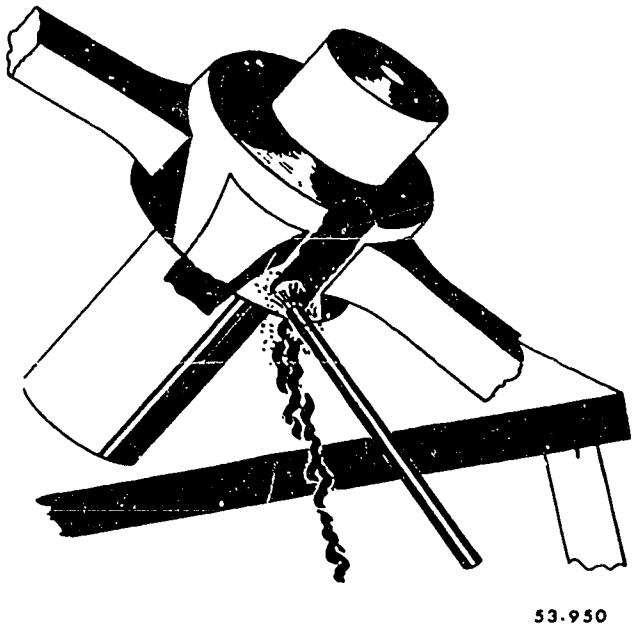

Figure 4-5. Groove cutting with metallic arc.
**Metallic Arc Cutting.** *Metallic arc cutting* is a progressive operation in which a low-carbon-steel, covered electrode is used, as shown in figure 4-5. The covering on the electrode is a nonconducting refractory material which permits the electrode to be inserted into the gap of the cut without being short-circuited. This insulating coating also stabilizes and intensifies the action of the arc. Direct current, straight polarity is preferred, but alternating current can be used. Standard electrode holders are used for metallic arc cutting in air.